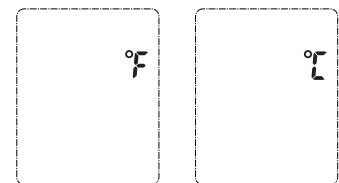

Figure 2
3. Press and release S BUTTON to select the unit(See Figure2).